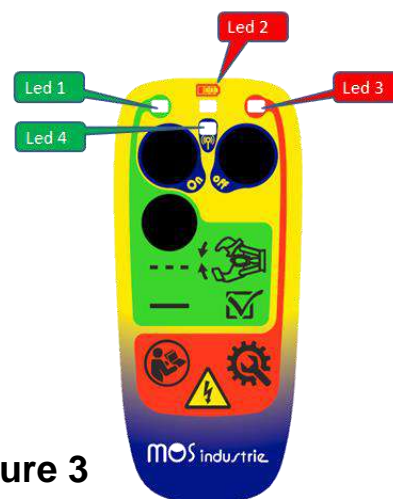

Figure 3
- The flashing of the green LED 1 (figure 3) accompanied by a high-pitched alternating sound signal indicates that the cut is progressing correctly. Maintain pressure on the button during the whole cut.